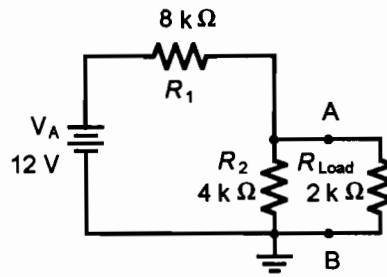

Figure 2.1
1. Construct the circuit of Figure 2.1 on your circuit breadboard. Use the potentiometers adjusted to the required resistance value.
4. Using the circuit of Figure 2.1, Thevenize and reconstruct the circuit on your breadboard.
7. Turn off the circuit power and restore your circuit to that of Figure 2.1, except use an 82-k $\Omega$  load resistance. Apply 12 VDC to the circuit and measure the value of  $V_L$ .